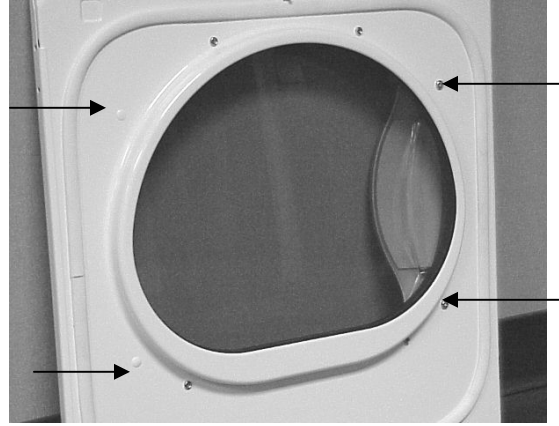

Figure 4
4. Remove two (2) door handle screws and two (2) hole plugs from door. Again taking care not to scratch paint on door. (Figure 4)